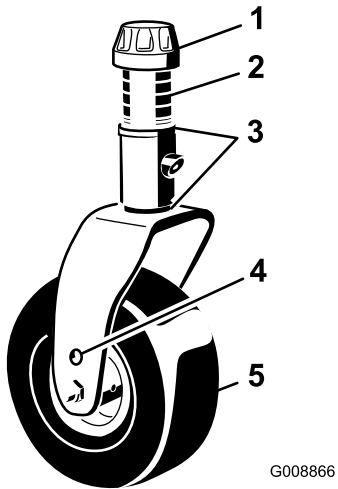

Figure 29
3. Adjust the shims (3 mm or 1/8 inch) on the front caster fork(s) to match the height-of-cut decal (Figure 29); refer to Adjusting the Height of Cut (page 26).